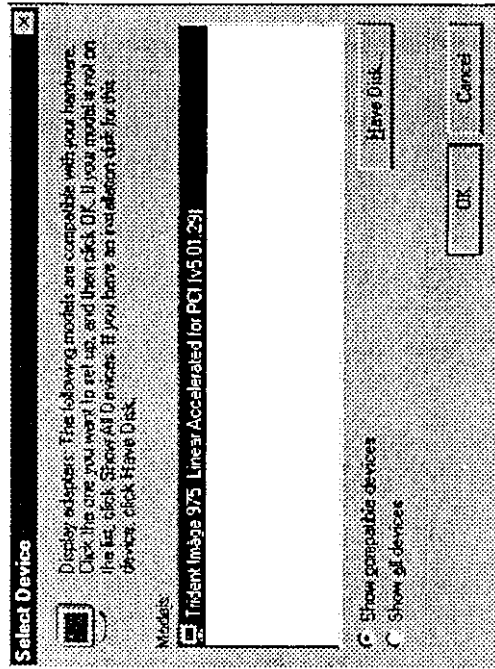

Figure 3-7.
8. After the files have been copied from the diskette drive to the hard drive, a "select device" window will appear as shown in Figure 3-7. Under Models, the line "Trident DIM AGE 975x linear accelerated for PCI V5 Xx.xx" will now be listed.